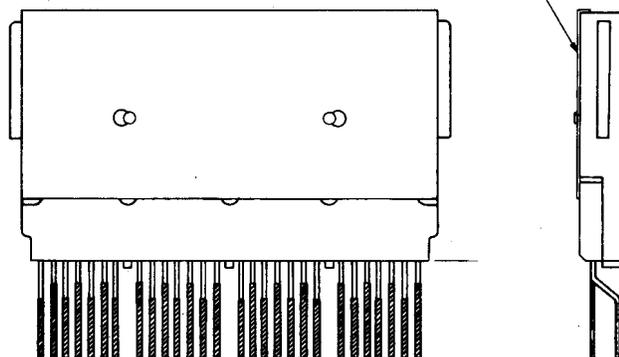

Fig. 5—905-Type Connectors
**2.04 905A, B, C, and D:** The 905A, B, C, and D connectors (Fig. 5) consist of a block of insulating material containing 28 contact springs. The terminals are arranged for mechanically wrapped connections.